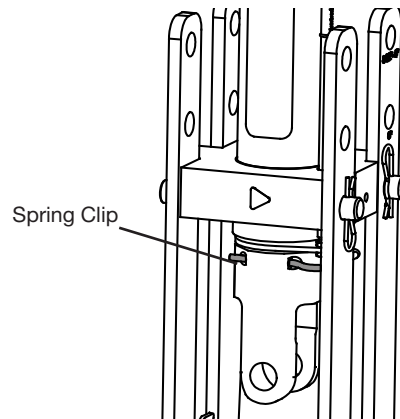

Figure 5
10. Pin the yoke to the ram piston with the spring clip. (Fig. 5)